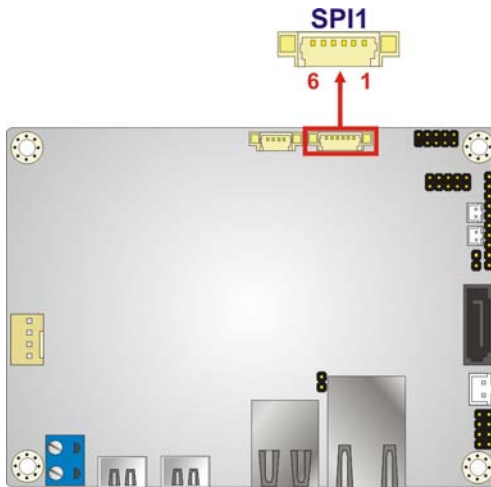

Figure 3-6: BIOS FW Connector Location
- CN Location: See **Figure 3-6**